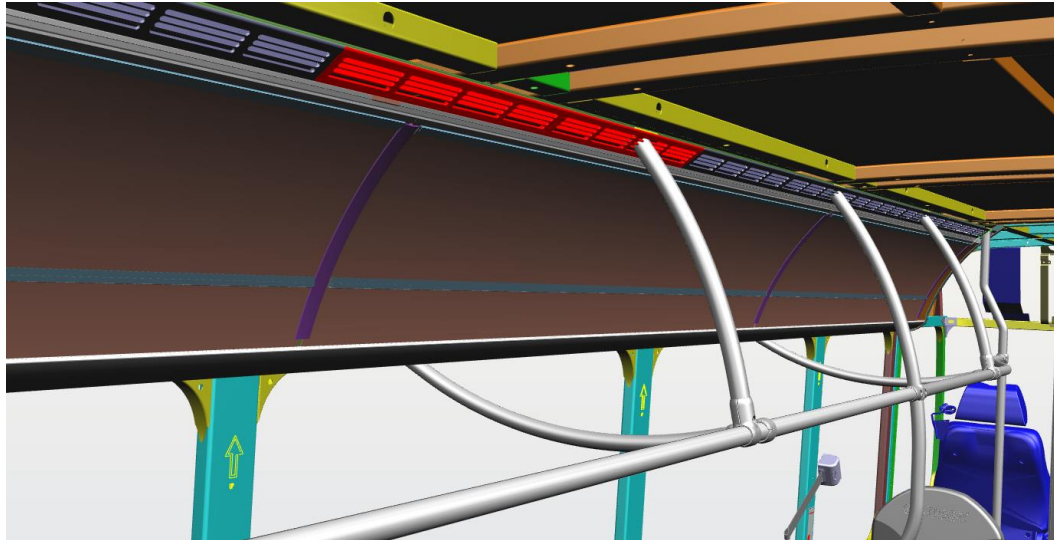

Figure 22: Light track vinyl cover location reference.
36. To add additional support, remove the light track vinyl covers under each ESS units. See figure 22.